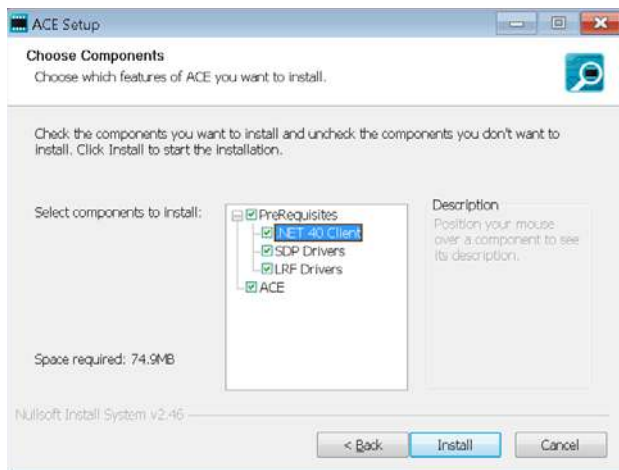

Figure 8. Drivers Required with ACE
3. Install the latest version of ACE software. During the installation, check the SDP Drivers, LRF Drivers and .NET 40 Client driver installations as well (see Figure 8).